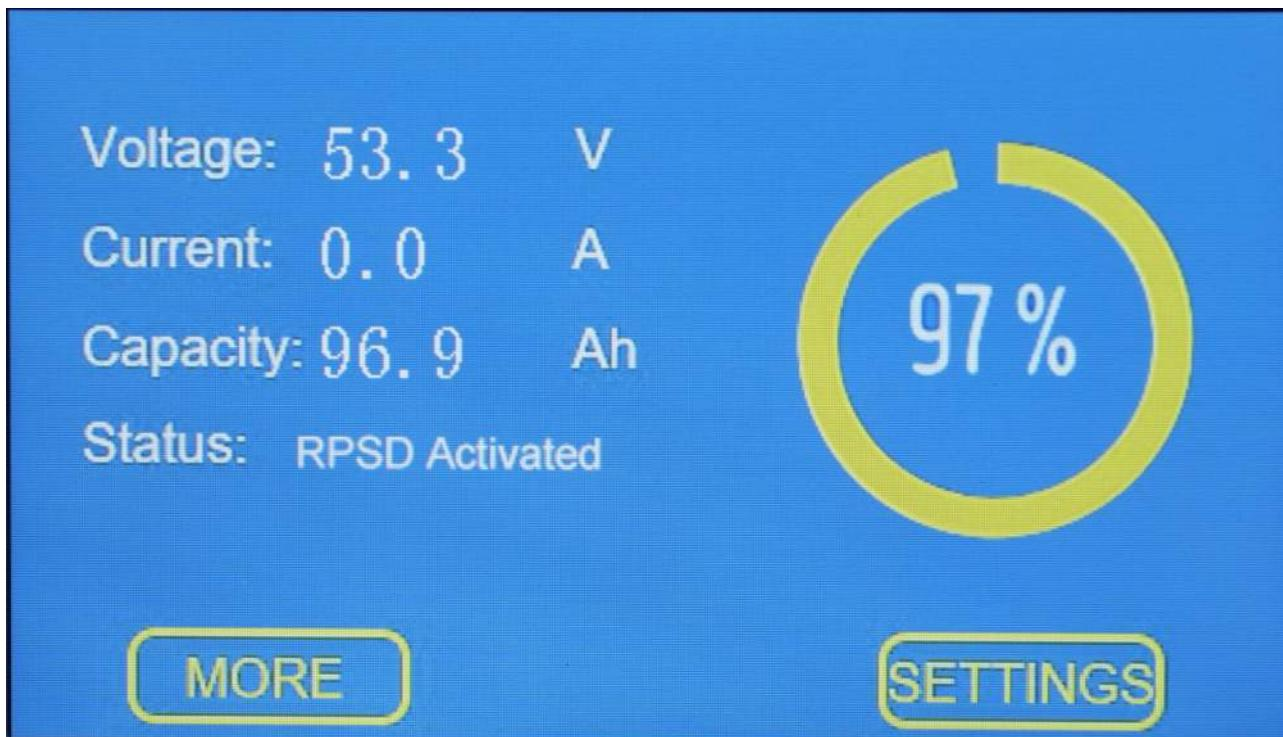

Figure 36: LCD User Interface - RPSD Activated State
- The red alarm (ALARM) LED indicator will light up, and the LCD screen will display “RPSD ACTIVATED” – See Figure 36.